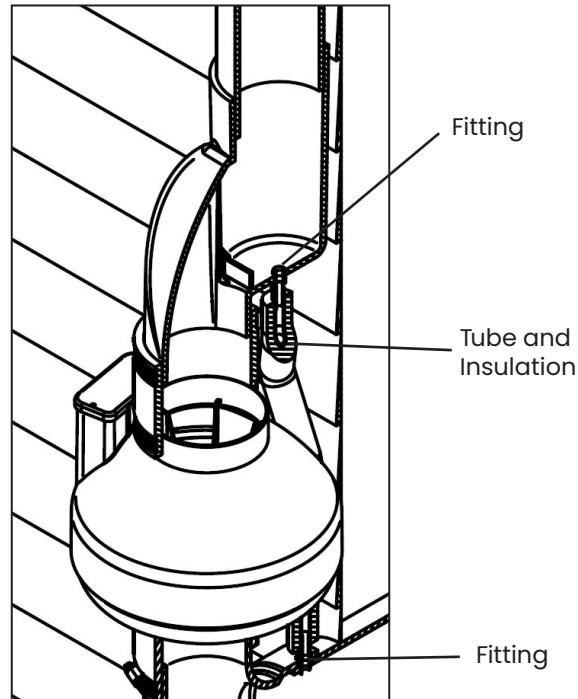
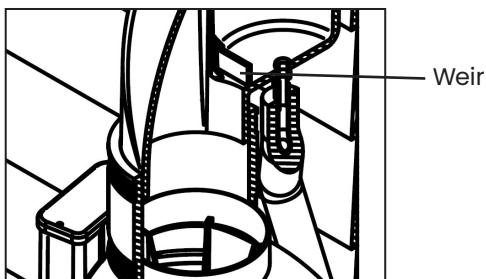
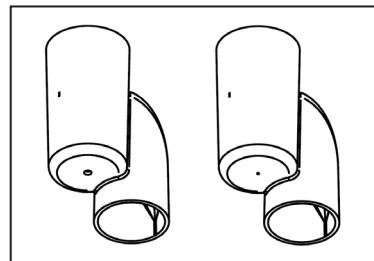

Figure 2:
Figure 1:
Figure 3:
1. If you will be installing the optional transition fitting, install it now; insert the weir (Figure 1) into the transition fitting as shown in Figure 2. Apply some cement to the bottom of the weir prior to installing.
2. Referring to Figure 3 below right, drill and tap a 1/4"-18 NPT hole using drill tap into the 4" Transition Fitting. Install the transition fitting above the fan (see Figure 2).
4. Perform the same drill / tap / fitting procedure on the inlet pipe below the fan as shown (Figure 2). The fitting must be less than 36 inches from the fitting above the fan.